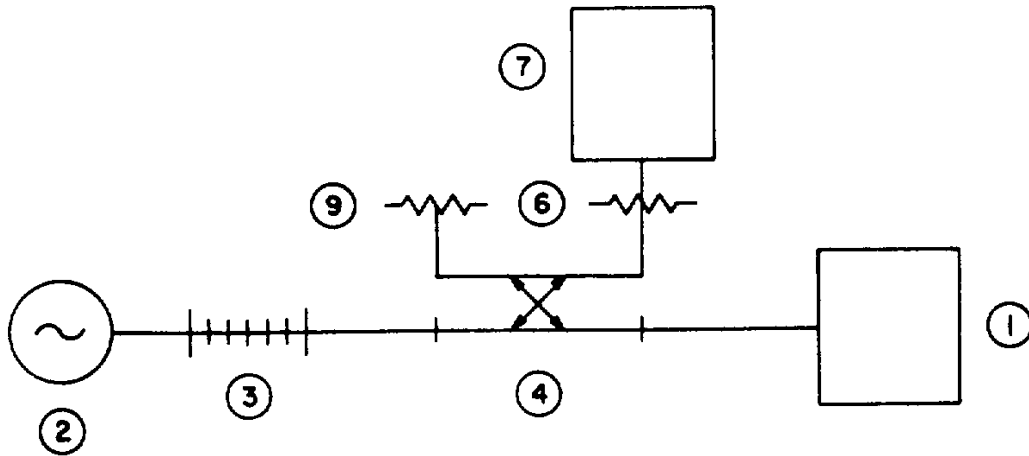

Figure 3b.
1. Adjust the generator (2) to a convenient low frequency and a level sufficient for a stable reading on the Model 42 (7).
2. Adjust the double-stub tuner (3) for a maximum indication on the Model 42 (7).
3. Replace the precision termination (5) with a standard power meter (1). (See Figure 3b.) With generator (2) set at the same frequency as in Step 1, adjust the generator output level for a convenient reading on the standard power meter (1). Record the output reading of the Model 42 (7). Record the indicated reading on the standard power meter (1) as ($P_{ind,1}$)